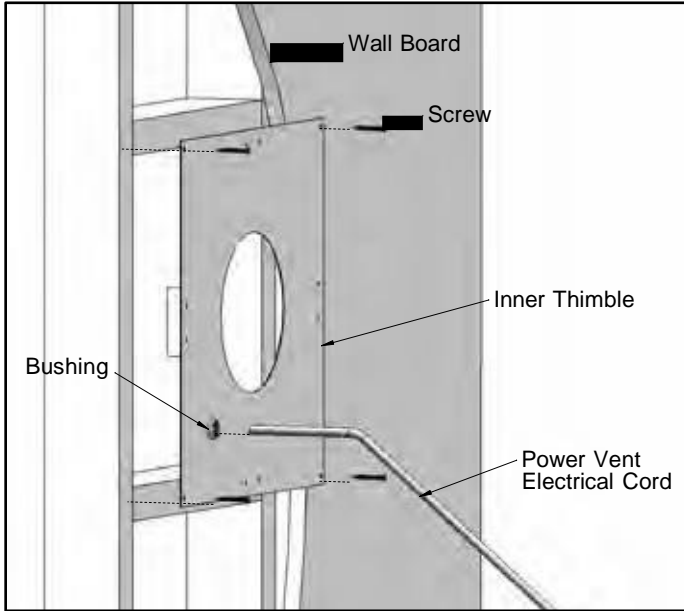

Figure 6: Install the inner thimble and the power vent cords.
4. Insert a 2 ft (61cm) length of the power vent electrical cord through the bushing on the bottom left of the inner thimble, shown in Figure 6.